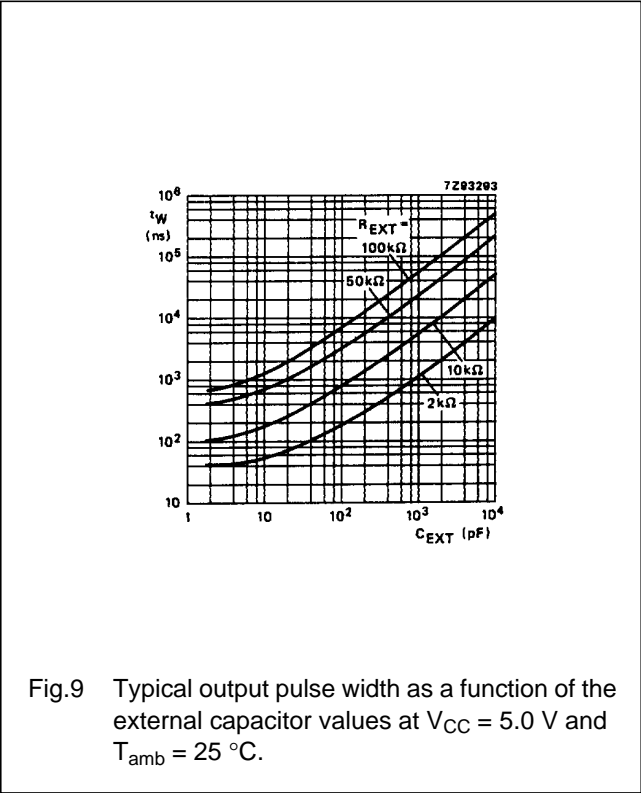

Fig.9 Typical output pulse width as a function of the
1. For other R_{EXT} and C_{EXT} combinations see Fig.9.